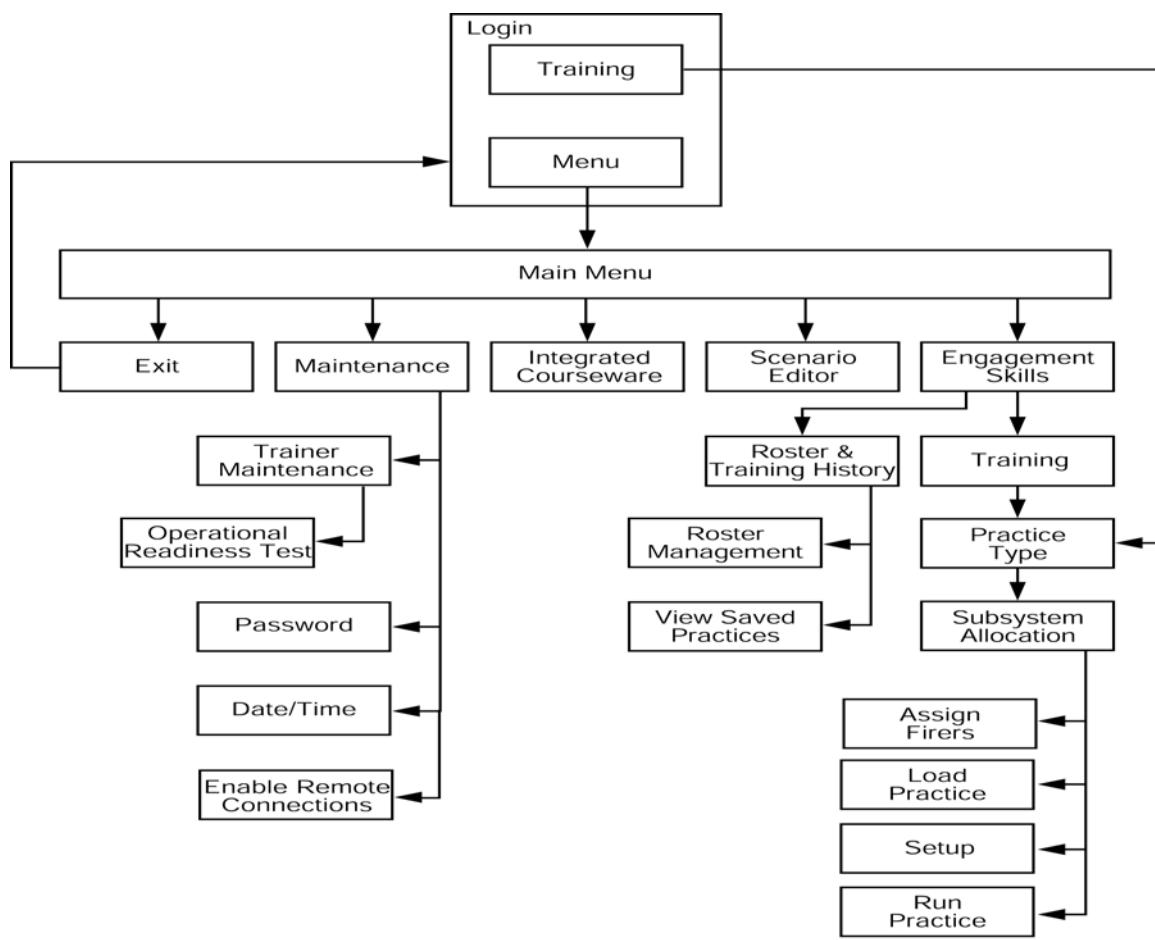

Figure A-19. System block diagram.
m. **EST 2000 System Block Diagram.** This navigation diagram (Figure A-19) provides a quick view of how the operator navigates through the instructor/operator (I/O) station.